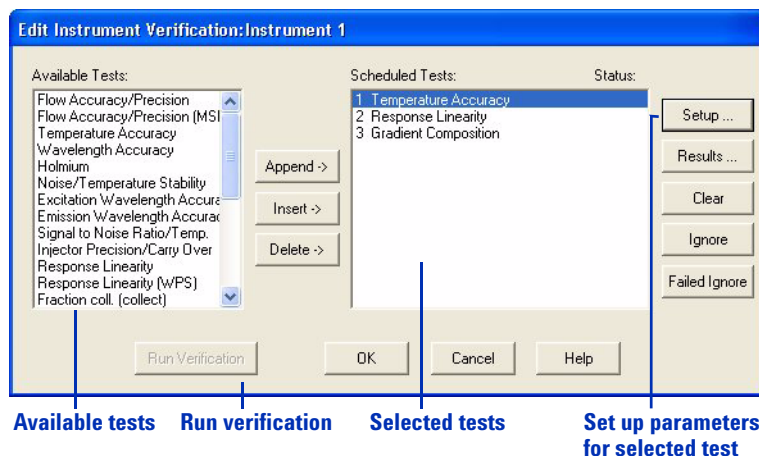

Figure 57 The Edit Instrument Verification dialog box lets you determine the specific tests and their order.
- Select **File > New** or **File > Open** to display the dialog box shown in Figure 57.
When you set up a new instrument verification, open an existing instrument verification, or edit the current instrument verification, the Edit Instrument Verification dialog box shown in Figure 57 is displayed.
The **Setup** button in Figure 57 is very important. When you click a scheduled test and click **Setup**, the dialog box that is specific to that test is displayed. Within the dialog box, you have the opportunity to: